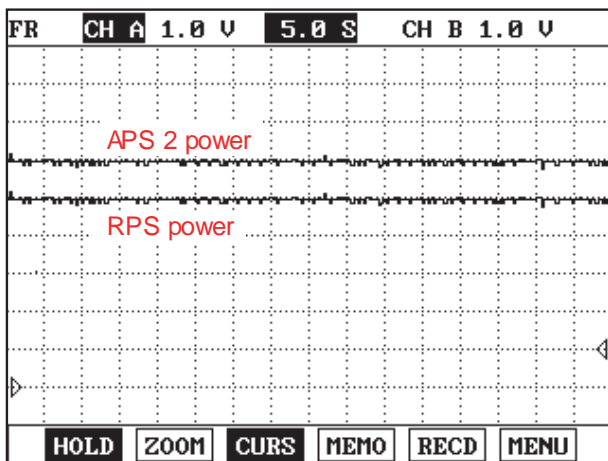

Fig.1
- Fig.1) APS2 and RPS power supply signals are measured simultaneously. Check if the voltages are within the specification (4.8~5.1V) at IG KEY "ON".